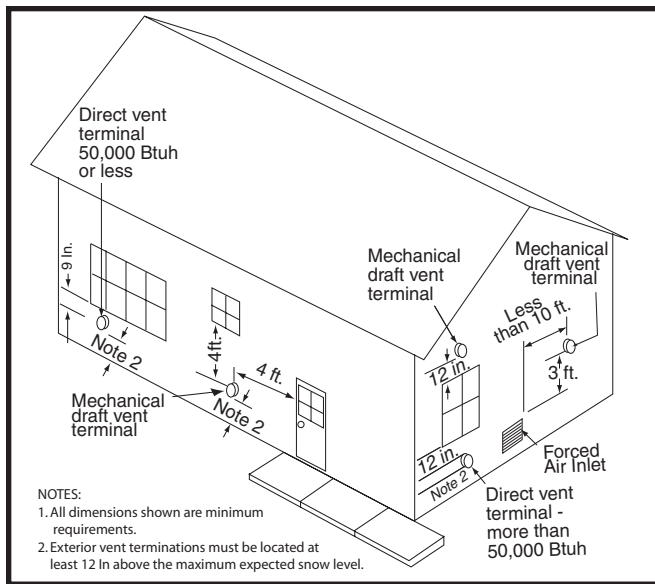

Figure 7. Vent Locations
- All minimum clearances (Figure 7) must be maintained to protect building materials from degradation by flue gases.